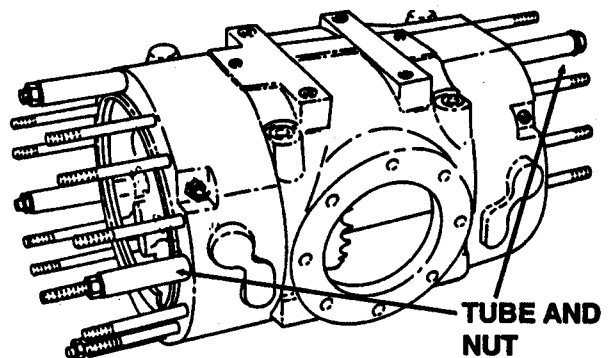

Figure 10.
12. Clamp three sections together by using four tubes and nuts each side (Figure 10) and torque tighten to 18 lb.-ft. (25 Nm).